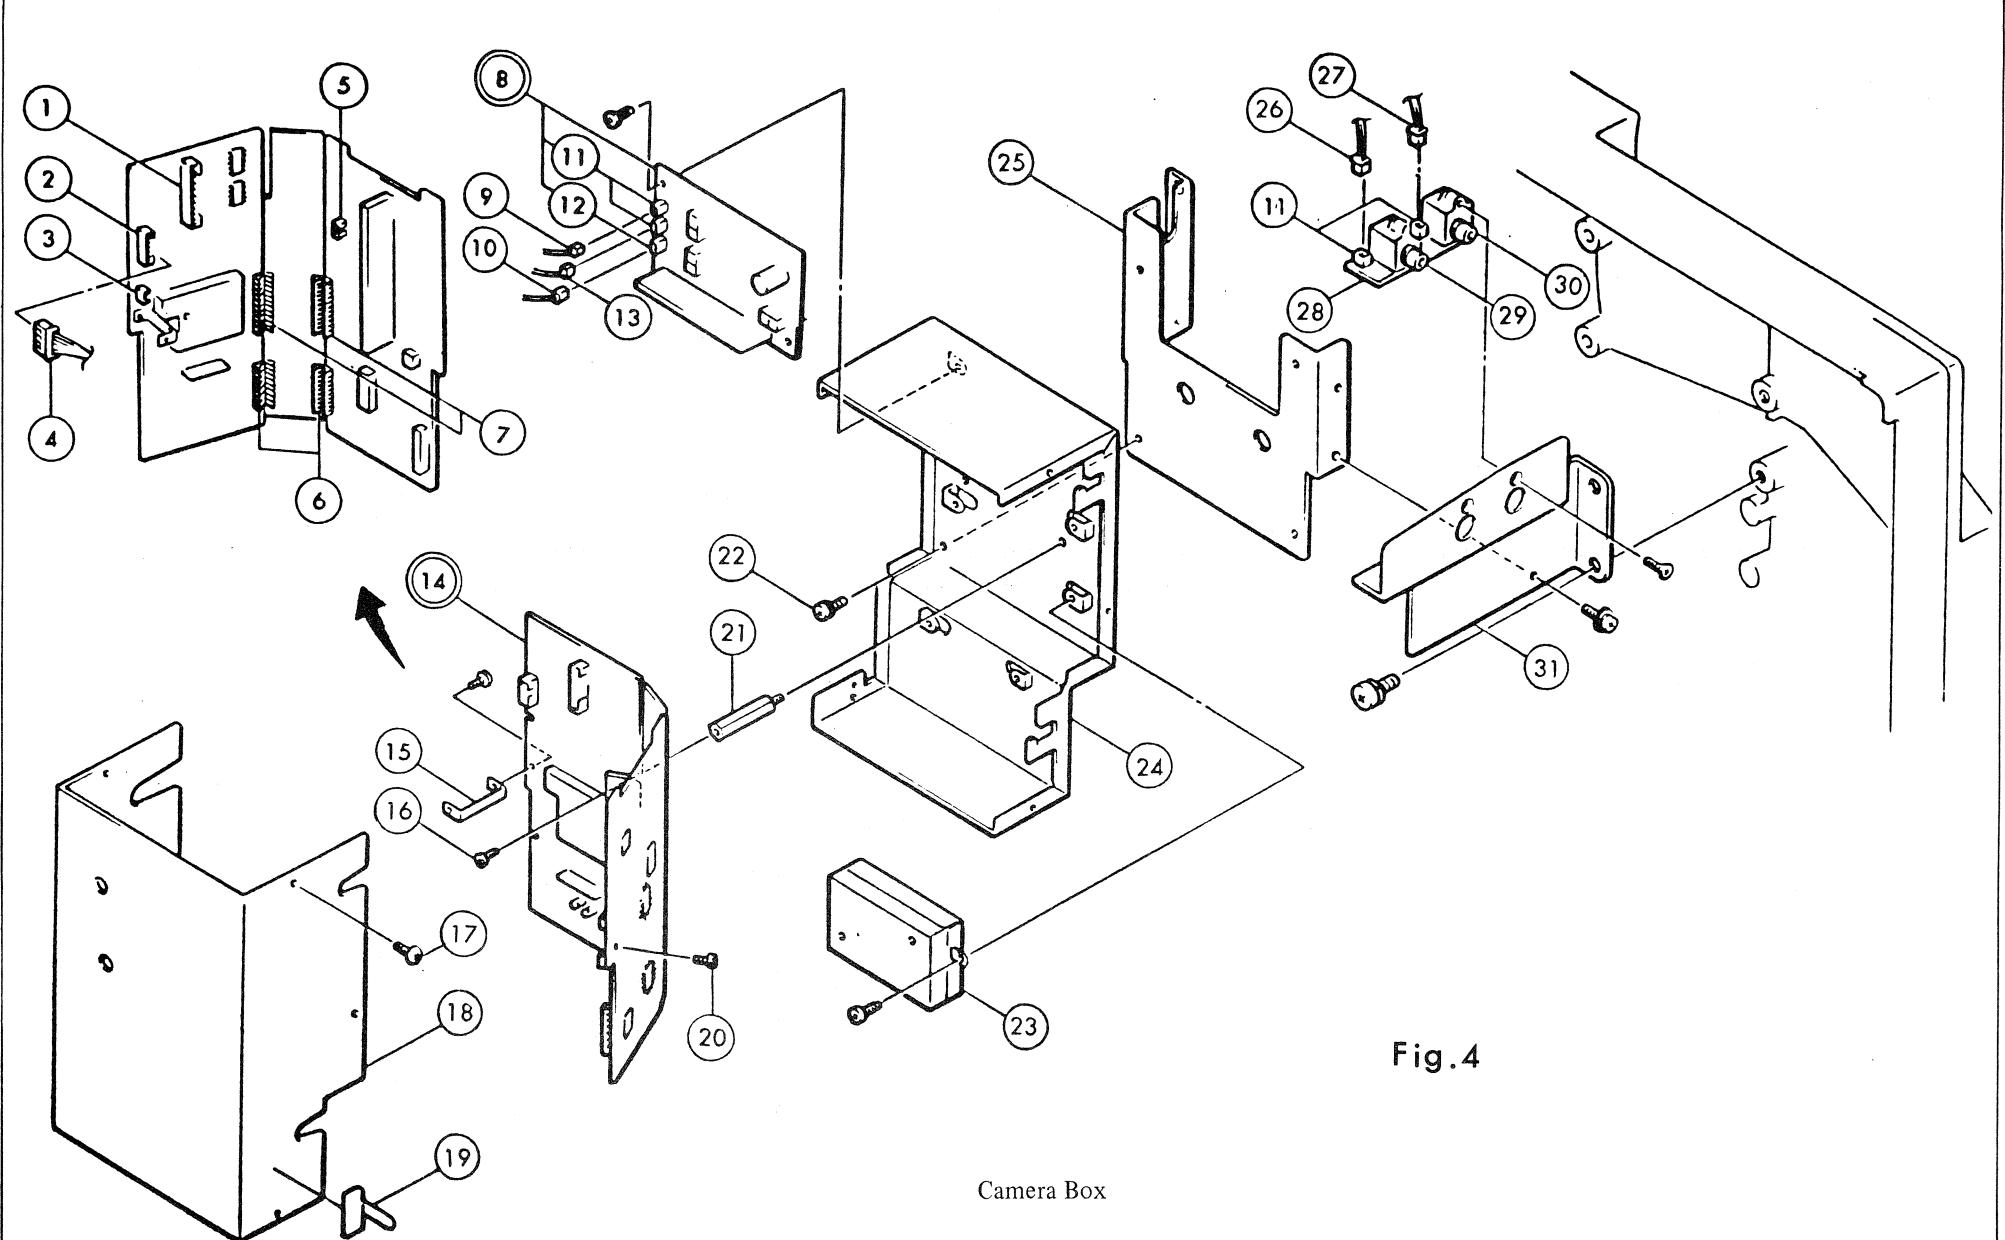

Fig.4
2. Remove ⑯ and ⑰ from ⑪.
3. Unscrew ⑯, and remove ⑱ from ⑲.
4. Unscrew ⑳, and open the PC board and disconnect the connector.
5. Unscrew ⑯ to remove ⑯.
6. See Fig. 4 for the above disassembly.